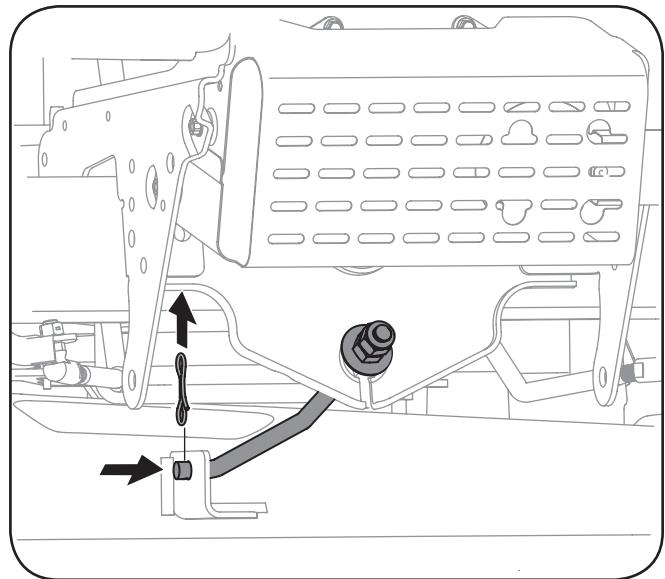

Figure 7-3
8. **On 42" decks:** Remove the bow-tie pin securing the deck stabilizer rod to the deck. Slide the deck lift rod from the mounting weldment on the deck as seen in Fig. 7-3.
- On 46" Decks:** Remove the bow-tie cotter pin and flat washer securing the deck stabilizer rod to the deck. Slide the deck lift rod from the mounting weldment on the deck as seen in Fig. 7-3.